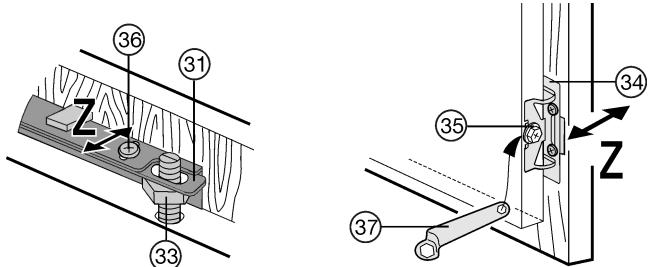

Fig. 25
- To align the unit door in depth Z: Undo the screws Fig. 25 (36) at the top and the hex head screws Fig. 25 (35) at the bottom using the ring wrench Fig. 25 (37) supplied, then move the door.